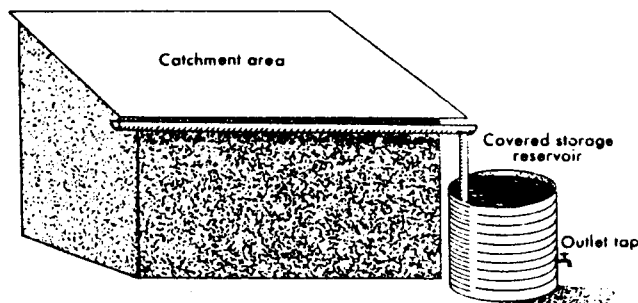

Fig. 2. Roof catchment system
1. Roof catchment systems - where a roof, normally of corrugated iron or some other impervious material is used for the collection of rainwater. This is normally fed via gutters into an above ground storage container (see Fig. 2).